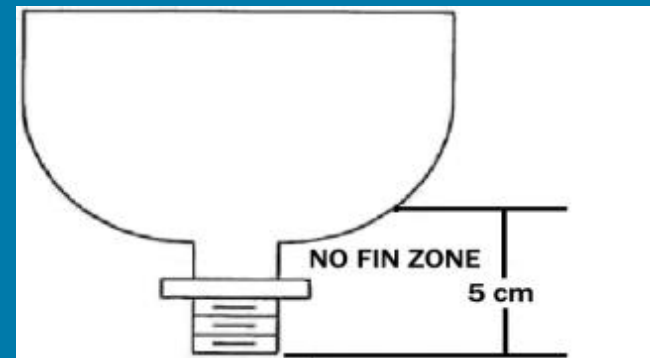

Figure 2
- Fins and other parts added to the bottle must be 5 cm or higher above the level of the bottle's opening, to ensure rockets fit on the launcher (see Figure 2).